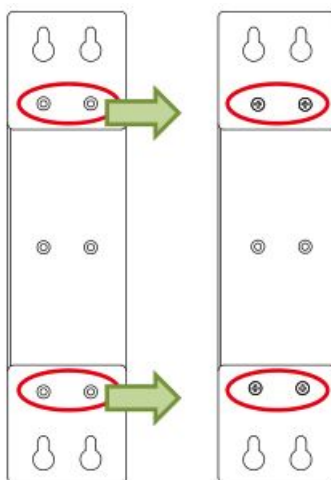

Figure 3-3 Wall mounted installation diagram
Step 2: Install the wall mounting bracket on the back of the device by using a screwdriver, as shown in Figure 3-3.